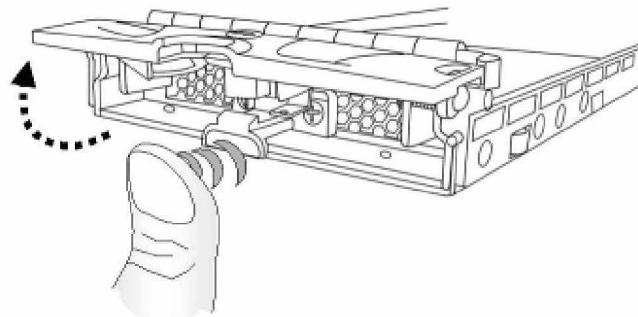

Figure 5-31: Opening the Front Flap
Step 3. ***Open the front flap*** by pushing the button at the front of the drive tray. (See *Figure 5-31*) The drive tray front flap will automatically be lifted and the drive tray will be dislodged from the chassis.